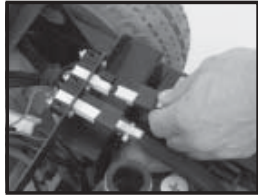

Figure 17. Battery Harnesses
- Unplug both black and white 2-pin battery harnesses. See figure 17.